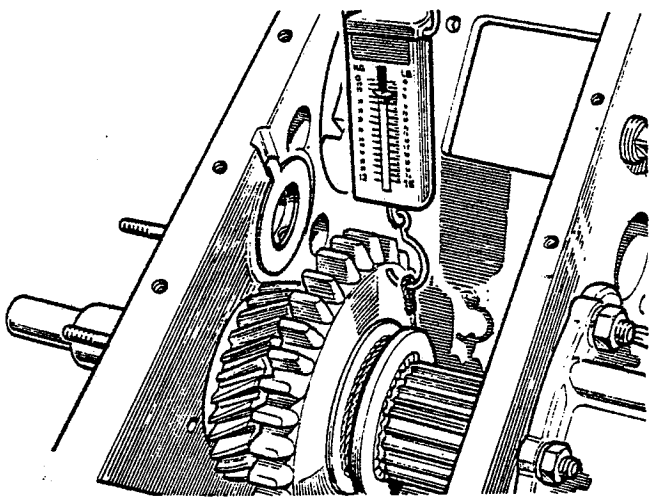

Fig. 32
To measure the rolling resistance of the output shaft, wind a length of string around the low gear selector groove and attach to a spring balance (Fig. 32).
4. Figure 32, Figure 14 and Figure 6.